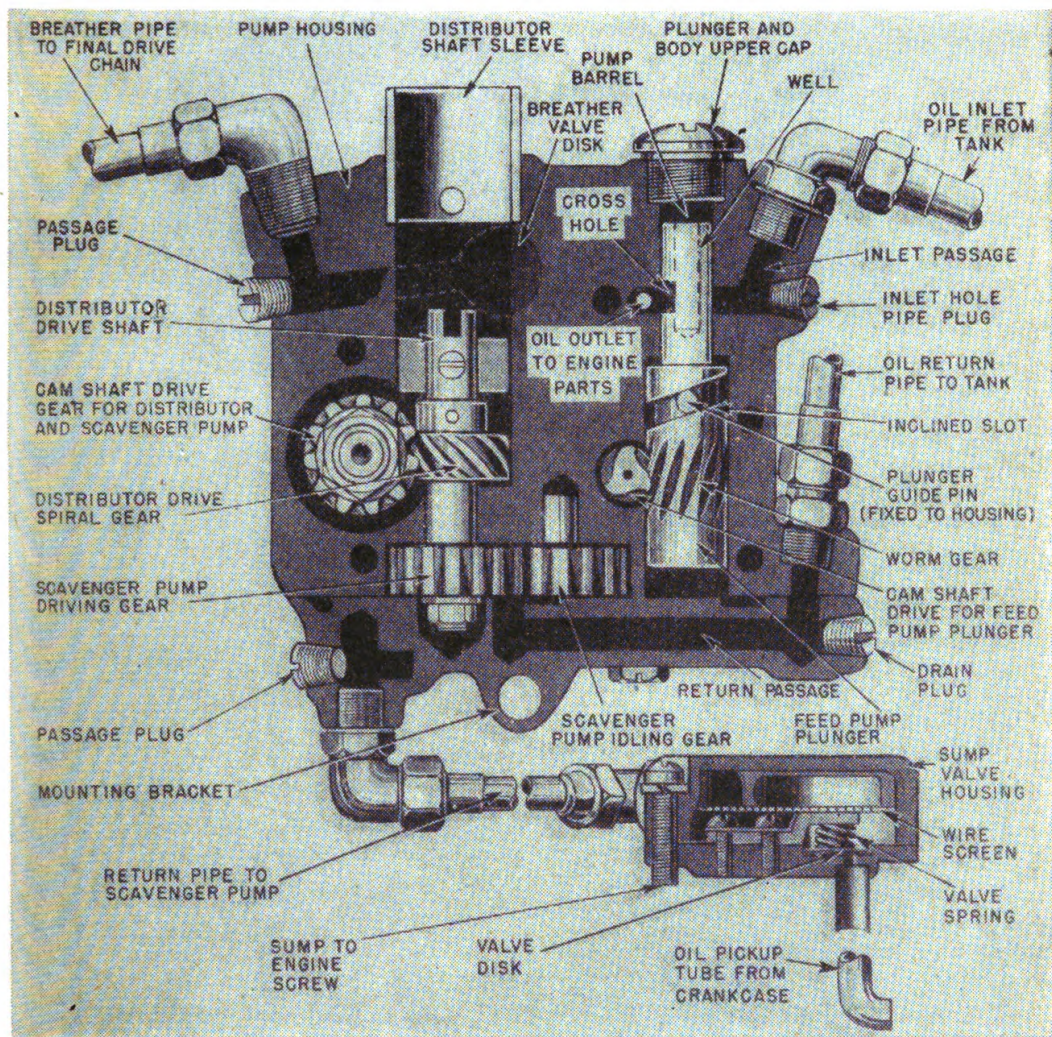

FIGURE 67.—Combination feed and scavenger pump.
c. In the Indian, the feed pump and the scavenger pump are inclosed in the same housing (fig. 67). The feed pump is a reciprocating and rotating plunger type. A worm gear, driven by the engine timing gear train, forms the lower part of the plunger. An inclined slot,